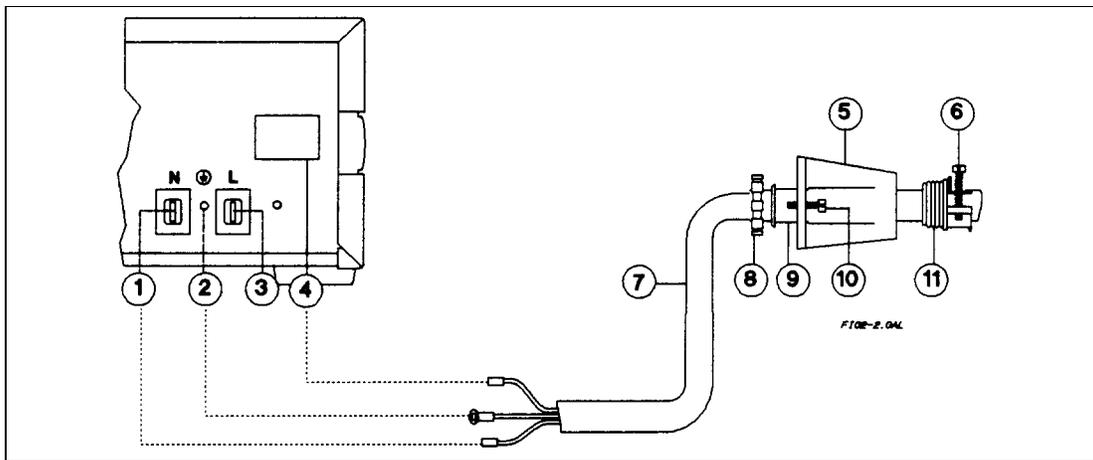

Figure 2-2. Connecting Power Cord
You can operate your unit from a nominal 200 V or a 230 V single-phase power source, or from the line-to-line voltage of a 208-volt, 3-phase source. The proper source is indicated on the rear **Rating** label (4), Figure 2-2). See "AC Input Ratings" in Table A-2 for the voltage and frequency range for each type of power source.
The power cord supplied with power supply may or may not include a power plug (see "Options" in Chapter 1) at one end of the cord. Terminating connections and a ground lug are attached to the other end of the cord. See Figure 2-2 and proceed as follows: